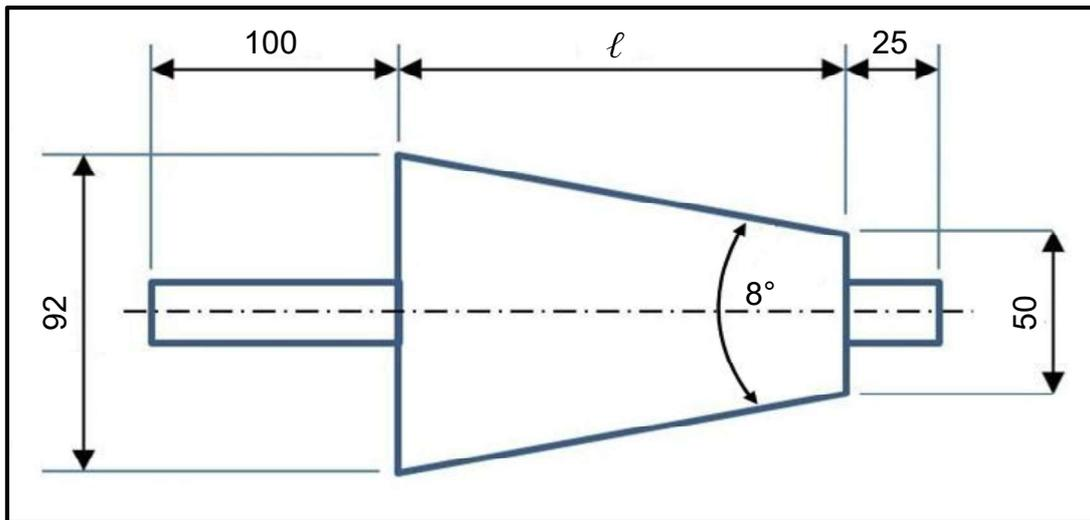

FIGURE 5.2
- 5.2 FIGURE 5.2 below shows a taper with an included angle of 8° . Answer the questions that follow.